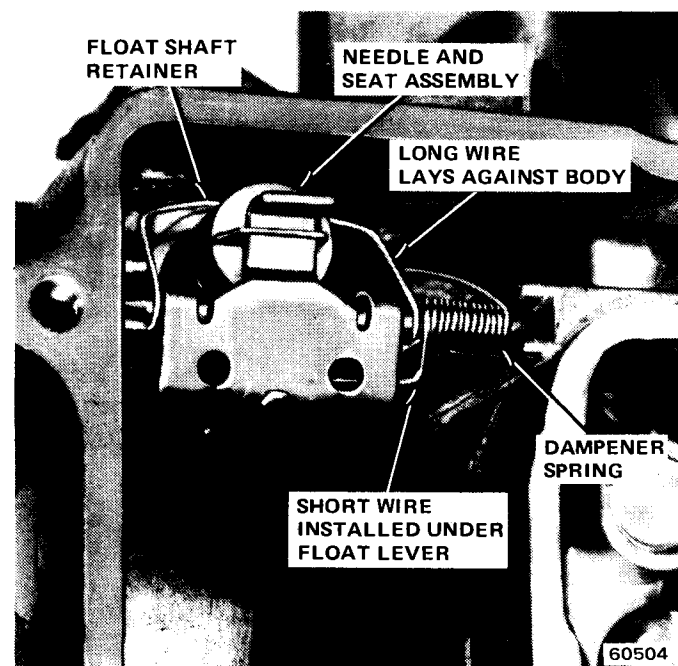

Fig. 4-50 Dampener Spring Installation
(18) Slide float shaft into float lever. Position float shaft retainer on float shaft.
(19) Install float dampener spring with short wire under float lever (fig. 4-50).